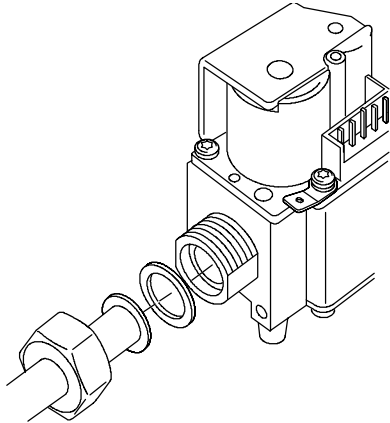

Fig. 12. External thread G^{1/2}” connection with nut and flat sealing ring
- ① **With nut and flat sealing ring for pipe 14 mm (see fig 12.)**
- ② **With nut and flat sealing ring for pipe 15 mm (see fig 12.)**